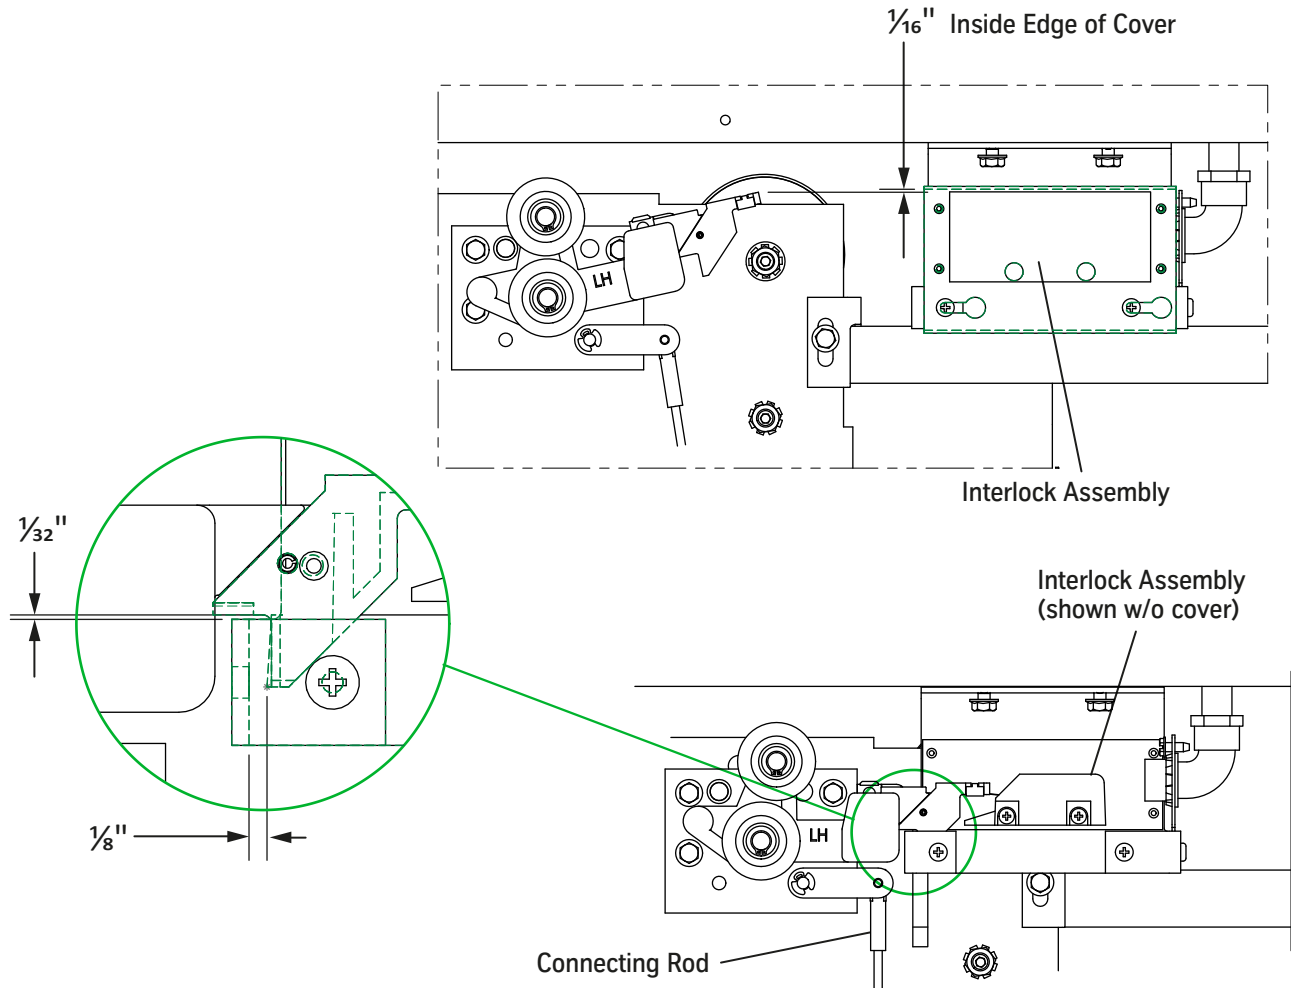

Figure 21 - Single Speed Interlock Adjustment
3. Close the doors, and verify the following. See Figure 21 on page 32.